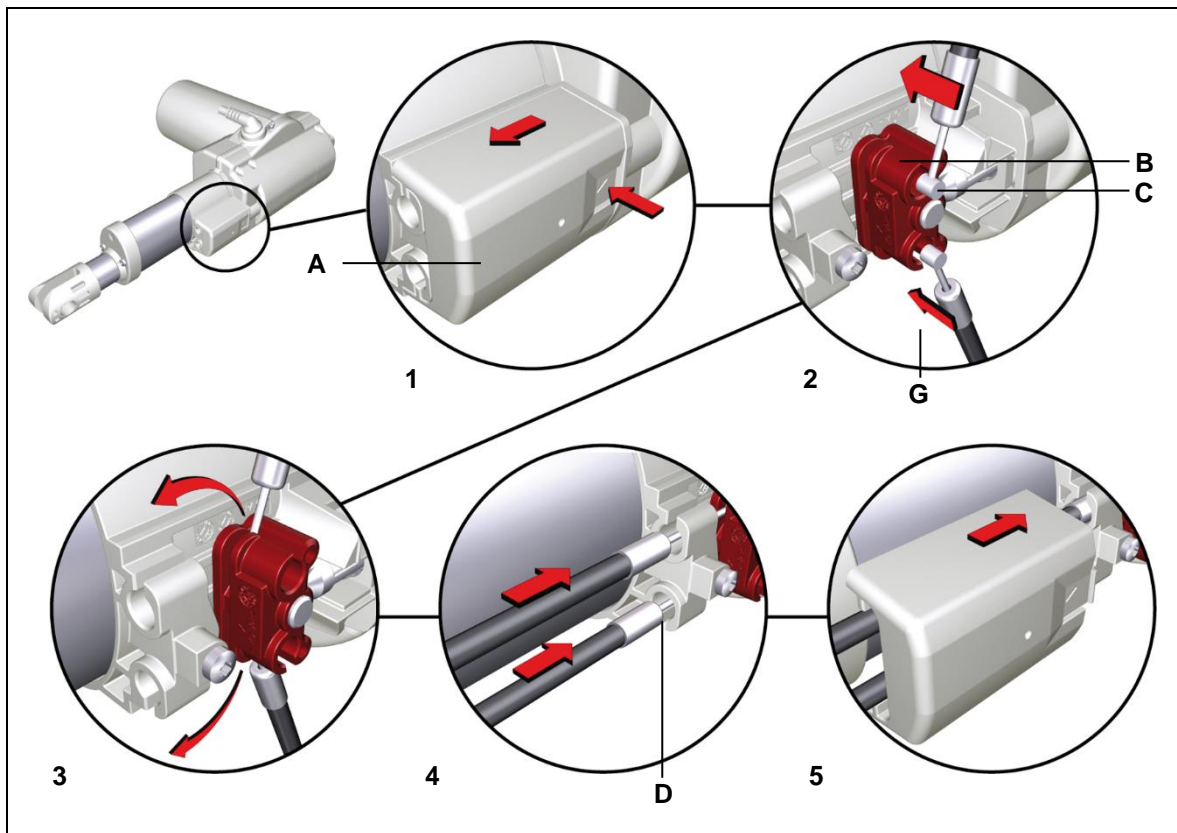

Figure 19 Installation of the Bowden cable for the mechanical reset function (ER)
- 1 Press the arrow on the cover of the Bowden cable holder while pulling off the cover (A).
- 2 Insert the Bowden cable nipple (C) sideways into the Bowden cable holder (B) as shown in Figure 19.
- 3 Move the Bowden cable to the guide (D) and insert the Bowden cable sheath into the guide.